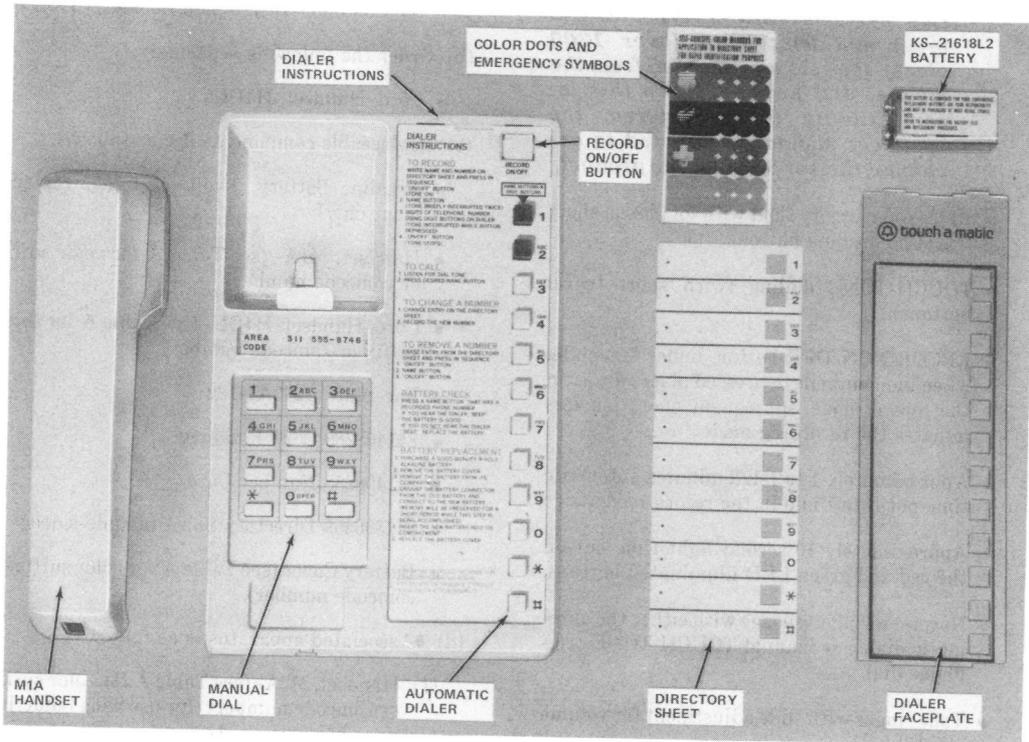

Fig. 2—5011T01A Telephone Set With Handset, Dialer Faceplate, Director Sheet, and Battery Removed
- Show 5011T01A-51 and 5011T01A-58 manufacture discontinued (MD) (Table A)
- Add emergency symbols (Fig. 2).
- (1) Remove the dialer faceplate by inserting fingernail into slot at top of faceplate, pull down slightly and lift out.
- (2) Remove the directory sheet and write or type the desired name(s) and telephone number(s).
- (3) Momentarily depress the RECORD ON/OFF button (Fig. 2). (A constant tone will be heard.)
- (4) Momentarily depress the memory button adjacent to the desired name listed on the directory sheet. (A double interrupt of the tone will be heard.)
- (5) Manually dial the desired number using the digit designations to the right of the memory buttons on dialer. (The tone will interrupt momentarily as each digit is recorded.) The manual dial